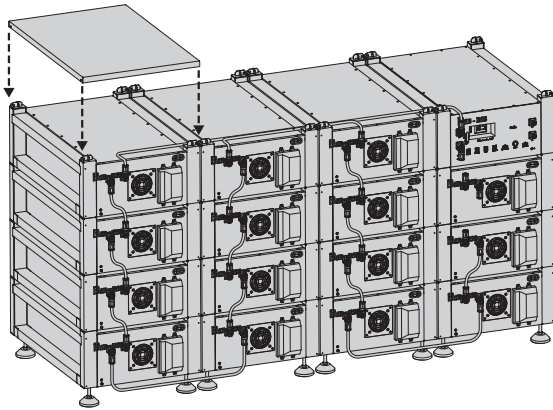
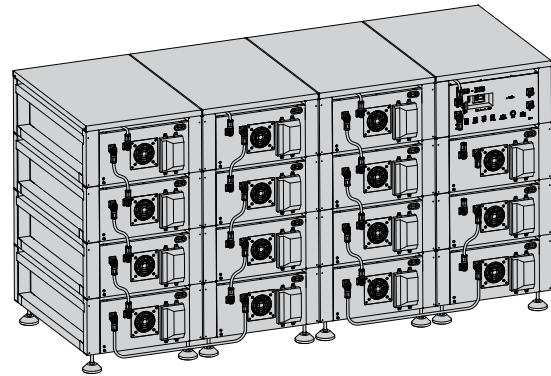

Figure 13
Figure 14
Step 5: As shown in the figure 13 & figure 14, assembling the top cover on the top layer in sequence.